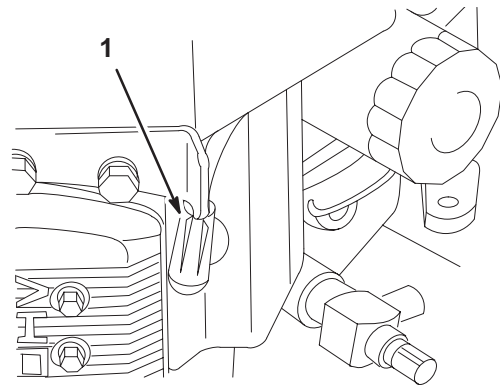

Figure 34
3. Disconnect the wire(s) from the spark plug(s) (Fig. 34).
3. Connect the wire(s) to the spark plug(s) (Fig. 34).